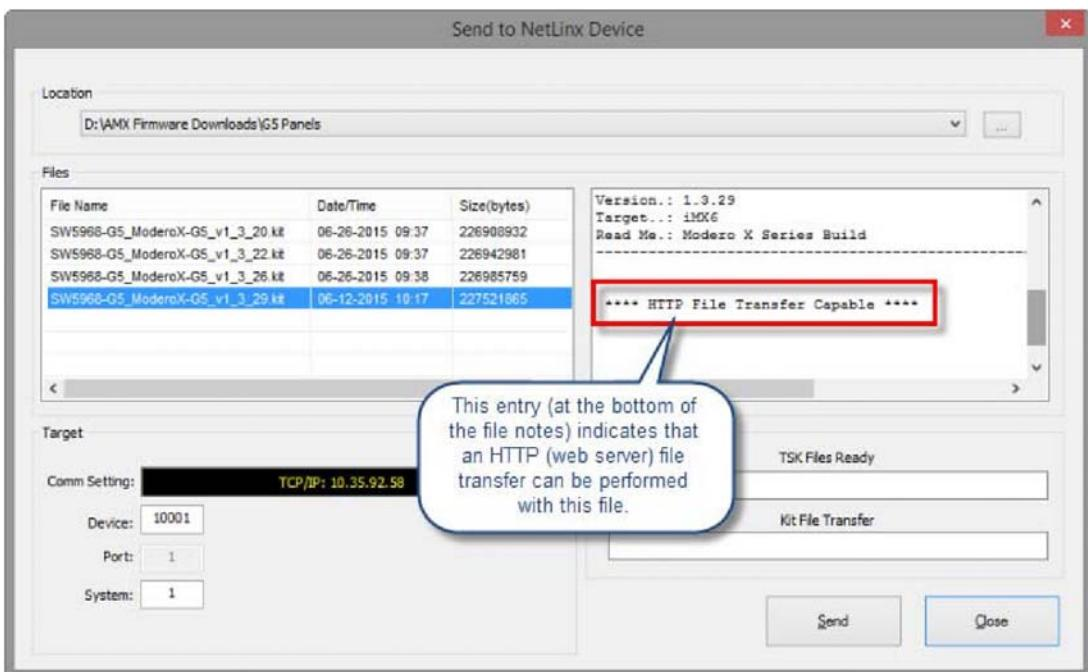

FIG. 159 NetLinx Studio - Send to NetLinx Device dialog This invokes the Send To NetLinx Device dialog.
Look for “**** HTTP File Transfer Capable ****” at the end of the file (see FIG. 159 on page 180).
- In the Files window, click to select the G5 *.kit file to transfer (FIG. 159):